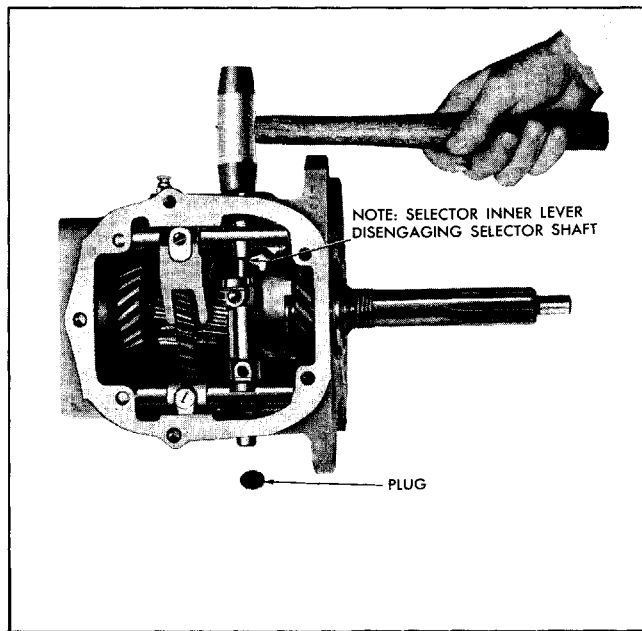

Fig. 7-21 Removing Selector Shaft
6. With soft hammer, drive selector shaft from left side of case toward right. This will knock out expansion plug on right side of case and permit removal of shaft (Fig. 7-21). **CAUTION:** A selector shaft leather oil seal is pressed into left side of transmission case with its lip toward inside of case. Selector shaft must be removed from right side of case to prevent its recessed portion from damaging seal.